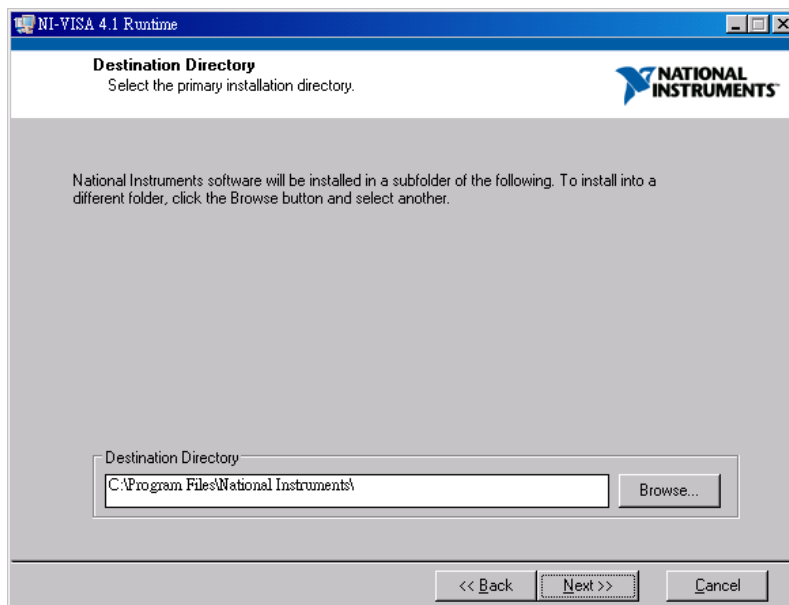

Figure 2-8 Setting Destination Directory for Installation
2. It is suggested to end the other running applications first, and then click **Next >>** to start the installation. It will enter into the next installation procedure and ask the user for installation path as Figure 2-8 shows.